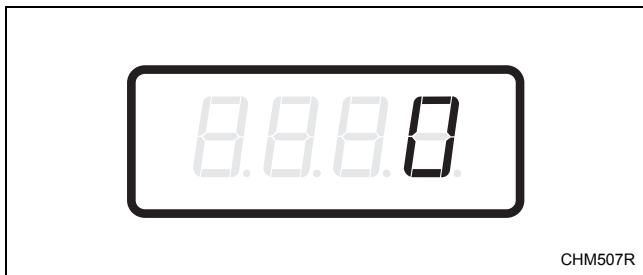

Figure 20
4. When “AtS9” appears in the display, press the START (enter) keypad. There are five digits in the Delicate Cold Vend Price. The fifth digit will appear in the display and will flash one (1) second on, one (1) second off. Refer to *Figure 20*.